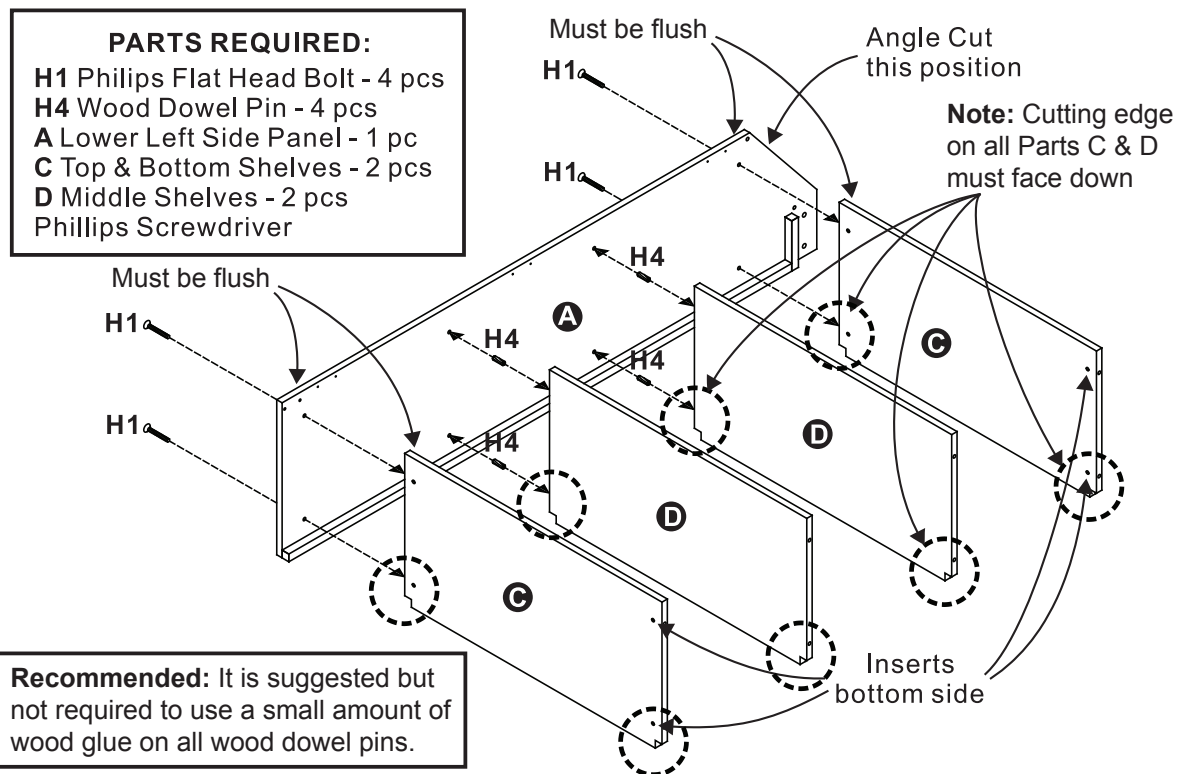

Figure 7
11. Attach Parts **C** to Part **A** using 4 pcs Phillips Flat Head Bolt (**H1**). See **Figure 7**. Tighten, but do Not over tighten or strip out **H1** Bolts.
12. Insert Wood Dowel Pins (**H4**) into pre-drilled holes on Parts **D**. Attach Parts **D** to Part **A**. See **Figure 7**.